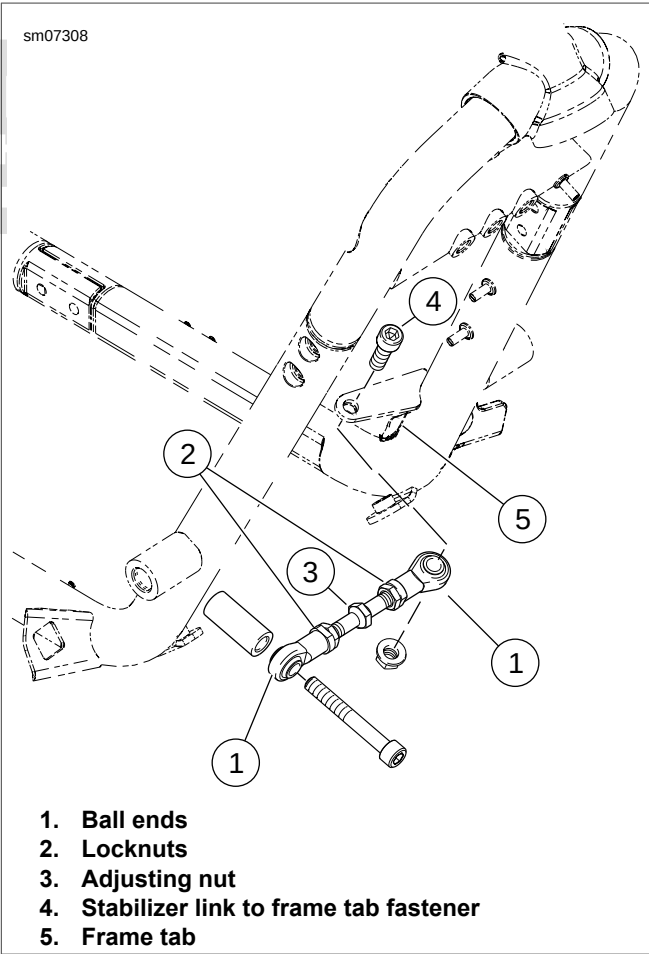

Figure 2-81. Engine Stabilizer Link
2. See Figure 2-81. If the front and rear wheels are out of alignment, loosen and remove the engine stabilizer link from the tab on the frame. This allows the engine to center itself to the front and rear engine mounts.
4. See Figure 2-81. The stabilizer link fastener (4) should fit freely through the ball end of the link (1) and the frame tab (5). If it does not:
- a. Loosen locknuts (2) on the ball ends (1)
- b. Use adjusting nut (3) and rod to adjust length of stabilizer link until stabilizer link bolt fits freely through ball end (1) of stabilizer link and frame tab (5).
5. Tighten stabilizer link to frame tab fastener (4) to 34-41 Nm (25-30 ft-lbs).